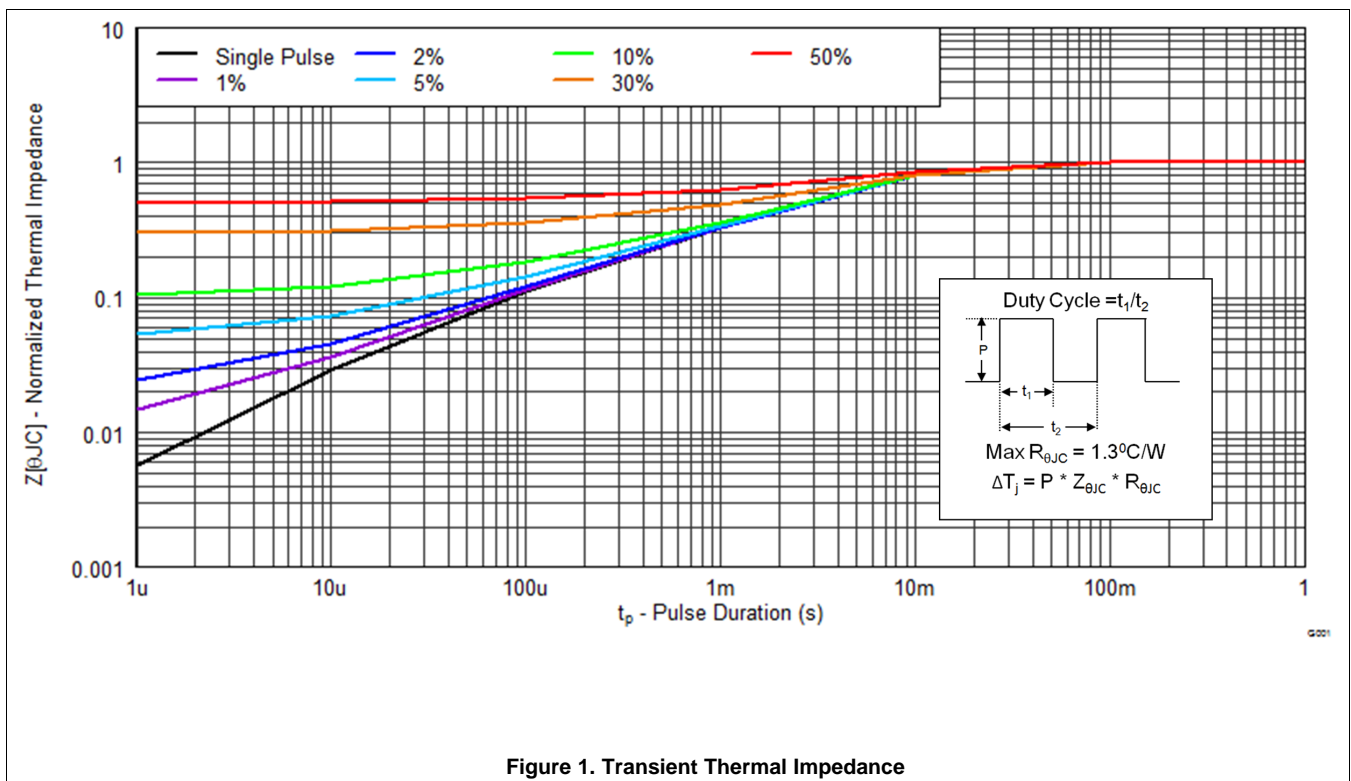

Figure 1. Transient Thermal Impedance
• Changed <a href="#">Figure 1</a> to normalized $R_{\theta JC}$ curve .....	4
• Changed Typ $R_{th JA}$ = 99°C/W To: $R_{th JA}$ = 100°C/W in <a href="#">Figure 1</a> .....	4